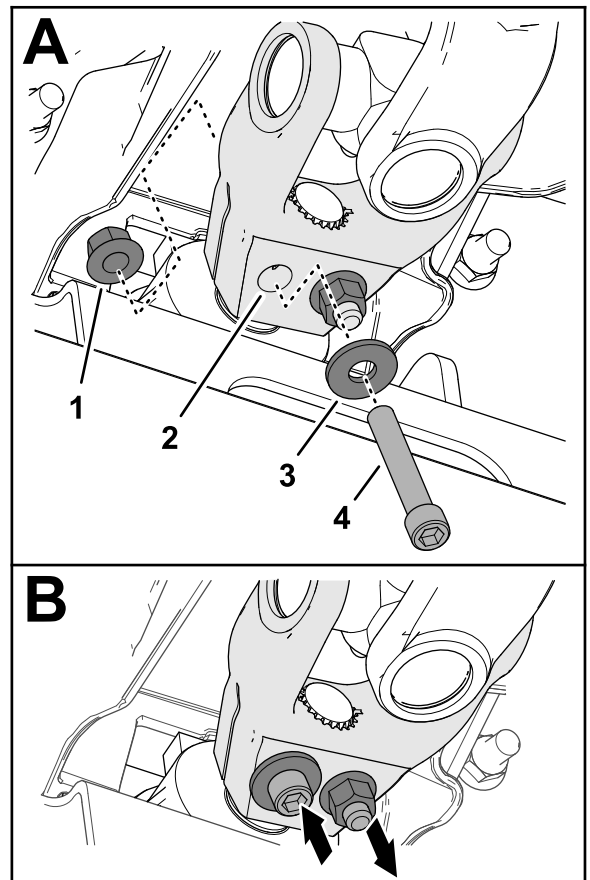

Figure 17
5. Assemble a socket-head capscrew (3/8 x 2-1/4 inches) through a washer (3/8 inch) and the hole in the driveshaft yoke (Figure 17), and secure the capscrew with a flange-locknut (3/8 inch).
6. Assemble a socket-head capscrew (3/8 x 2-1/4 inches) through a washer (3/8 inch) and the hole in the driveshaft yoke from the opposite direction (Figure 17), and secure the capscrew with a flange-locknut (3/8 inch).